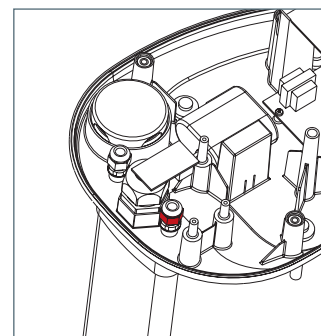

fig.6 - Confort™ pH cable gland
- unscrew the cable gland corresponding to the pH probe wire using a 15 mm spanner (fig. 6)